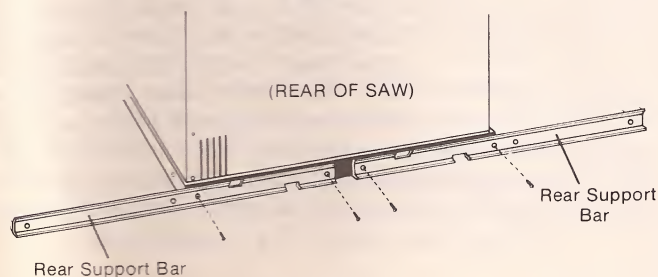

Figure 6
- F. Select the two identical Rear Support Bars (see **figure 1** and install on the rear edge of the Table Top as shown in **figure 6**. Make sure that the raised edges of the Support Bars are facing out. (Study **figure 6**.)